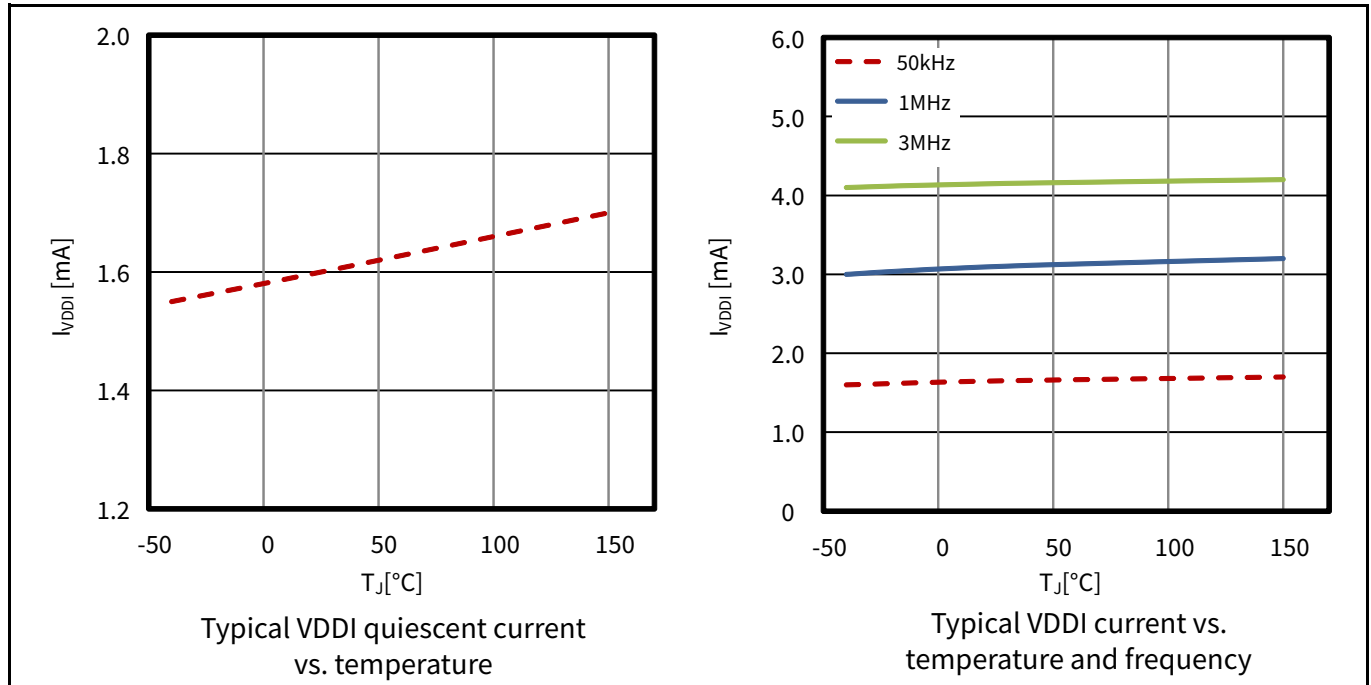

**Figure 8** Input signal, output switch sequence and resulting  $V_{GS}$  for normal operation and "first pulse" situation
**Table 8** Dynamic characteristics,  $T_{J,max} = 125^{\circ}\text{C}$  (see Figure 7 and Figure 8)
**Figure 8** illustrates a complete switching sequence of the four switches forming the two output stages of GaN EiceDRIVER™ (delay, rise and fall times not shown). The sequence in the left part of **Figure 8** corresponds to the normal switching operation, whereas in the right part the "first pulse" situation is depicted. This situation is assumed to happen whenever there is no switching action for an extended period  $t_2$ . Clearly  $t_2$  must be significantly longer than a regular switching period. A typical duration of 32  $\mu$ s has been chosen, as GaN switches usually operate at switching frequencies significantly above 50 kHz (switching period below 20  $\mu$ s).